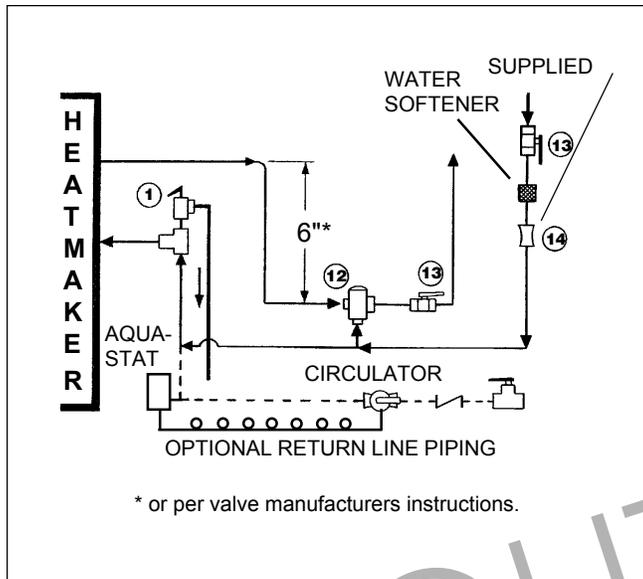

Figure 13. Domestic Water Piping.
Connect hot water tempering valve (12) "HOT" port to hot water outlet from unit. This valve should be mounted 3" to 6" below the outlet and set for 120° F mixed delivery temperature or as local codes dictate. H SERIES RECOMMENDS ANTI SCALD VALVE SUCH AS SPARCO OR DANFOSS. (see Figure 13).